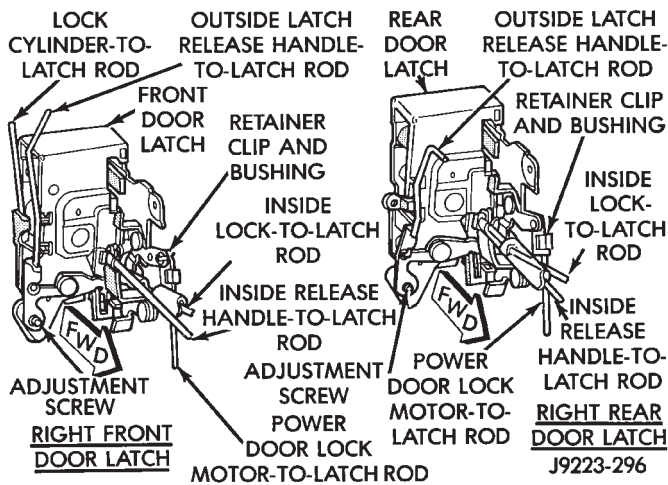

Fig. 76 Door Latches
- (5) Remove the retainer clip and key lock cylinder from the door outer panel.
- (6) Disconnect all the rods from the door latch (Fig. 76).
- (3) Install the door latch at the door face and connect all the rods to the latch (Fig. 76).
- (4) Install the latch screws. Tighten the screws to 9 N·m (77 in-lbs) torque.
- (5) Install the external handle.
- (6) Install the latch-to-door handle rod.
- (7) Install the key lock cylinder and retainer clip.
- (8) Install the door waterdam and trim panel.
- (9) Install the door access plug.